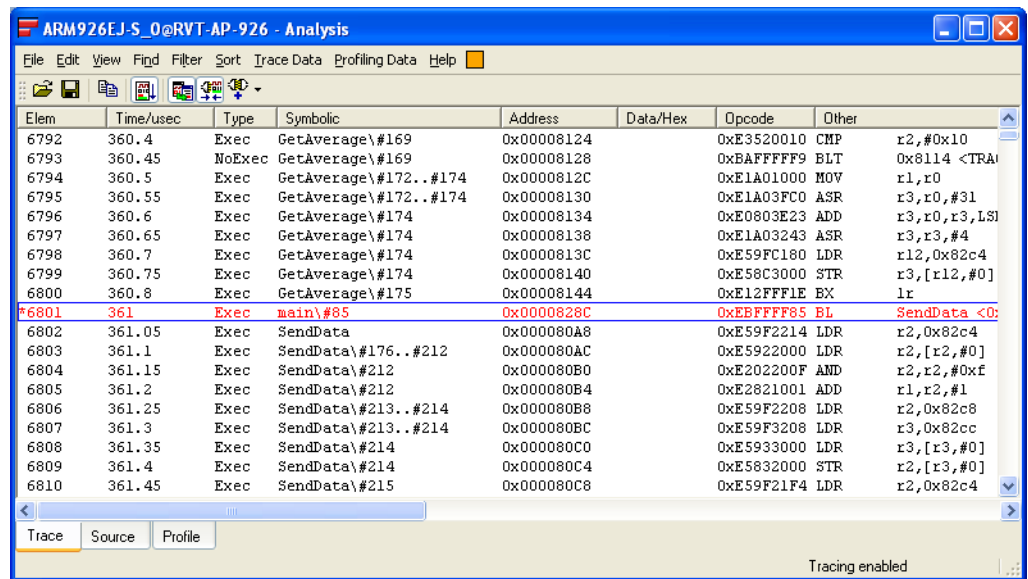

Figure 10-74 Captured trace after the trigger point
6. Scroll down the trace output to see the captured trace after the trigger point. Figure 10-74 on page 10-72 shows an example: